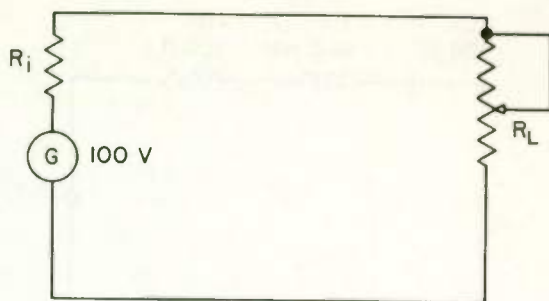

Fig. 38
(1) 600 kHz (2) 900 kHz (3) 1200 kHz (4) 2400 kHz
17. Refer to Fig. 38. The generator G supplies a constant 100 V. If the internal impedance R_i is 100,000 Ω and the load R_L varies between 1500 and 2500 Ω , the generator is a
(1) constant-voltage source.
(2) constant-current source.
(3) neither of the above because both the voltage and the current vary greatly.
18. Refer to Fig. 38. If R_i is 15 Ω and R_L varies between 85 and 90 k Ω , the generator is a